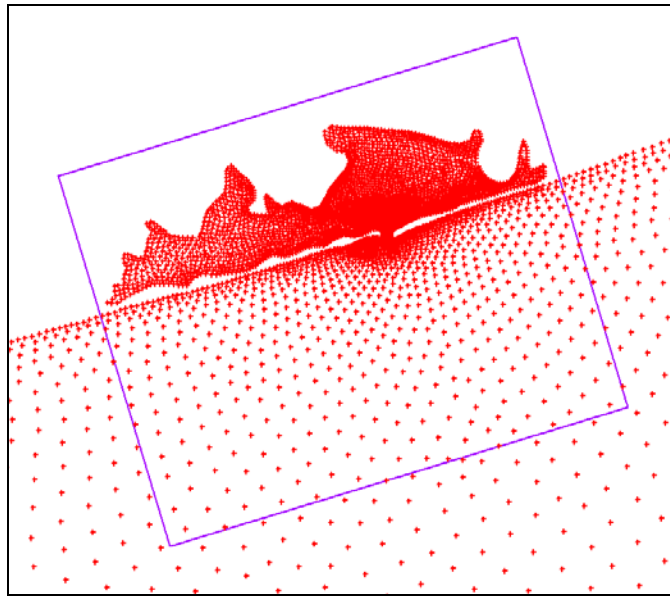

Figure 18-1. Zoomed in view of the scatter data set.
1. Switch to the *Scatter* module . Zoom  in on the dense part as shown in Figure 18-1. Zoom by dragging a box around a region or single clicking. Hold the *Shift* key while clicking to zoom out.
2. Select the *Select Scatterpoints*  tool and choose *Edit | Select With Poly*. This allows you to click on the screen and draw out a polygon. Any points inside the polygon will be selected. Select the points around the box shown in Figure 18-1 with about a 30% margin. Double-click on the screen to close the polygon and select the points.
6. Push *OK* when you are done positioning the frame to appear as Figure 18-1.